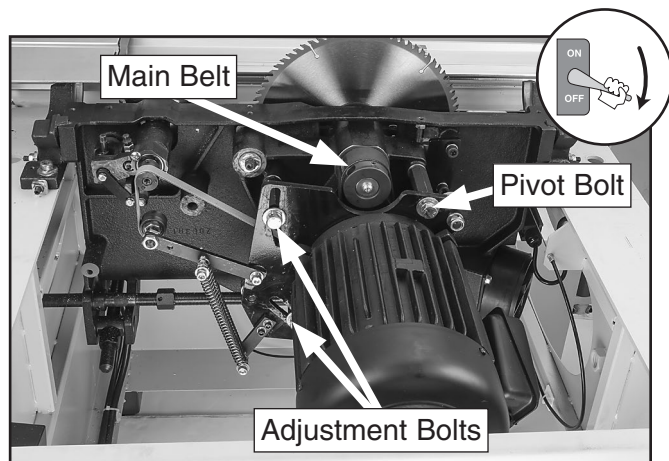
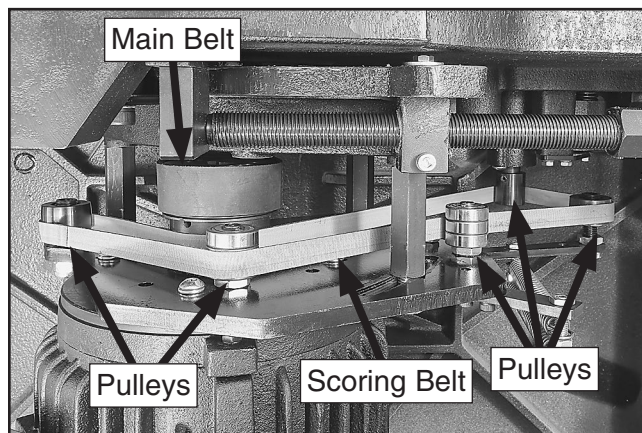

Figure 152. Locations of adjustment and pivot bolts (cast-iron table removed for clarity).
Figure 153. Scoring belt installed onto pulleys (cast-iron table removed for clarity).
3. Loosen pivot bolt and two adjustment bolts (see **Figure 152**).
6. Replace main belt (shown in **Figure 152 & 153**), then place scoring belt onto pulleys, as shown in **Figure 153**.
7. Loosen pivot bolt and two adjustment bolts (see **Figure 152**), and lower motor to apply proper belt tension (see **Tensioning Main Belt** on **Page 73**).